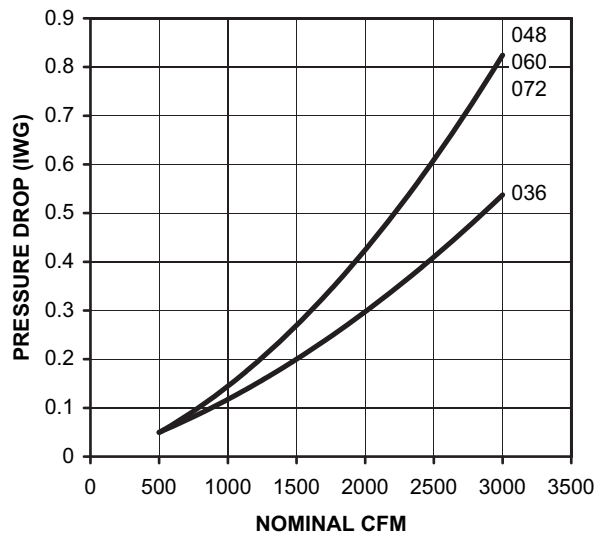

FIGURE 13 - PRESSURE DROP ACROSS COIL
4. Knowing the pressure drop across a dry coil, the actual CFM through the unit can be determined from the curve in Pressure Drop vs. Supply Air CFM (Figure 13).